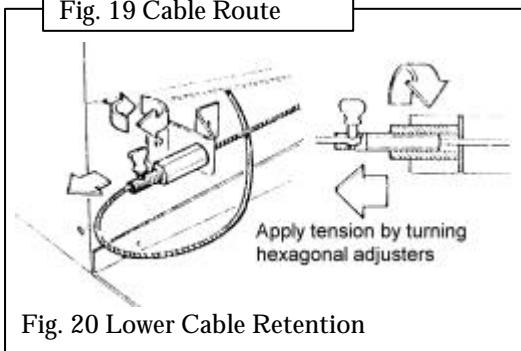

Fig. 20 Lower Cable Retention
7.1.2.8 Pull each cable taut. Push the cable retainers hard up against the "V" brackets. Tighten the screws in the retainers so that they clamp the cables in position. Apply tension to the cables by turning the hexagonal adjusters (see figure 20).